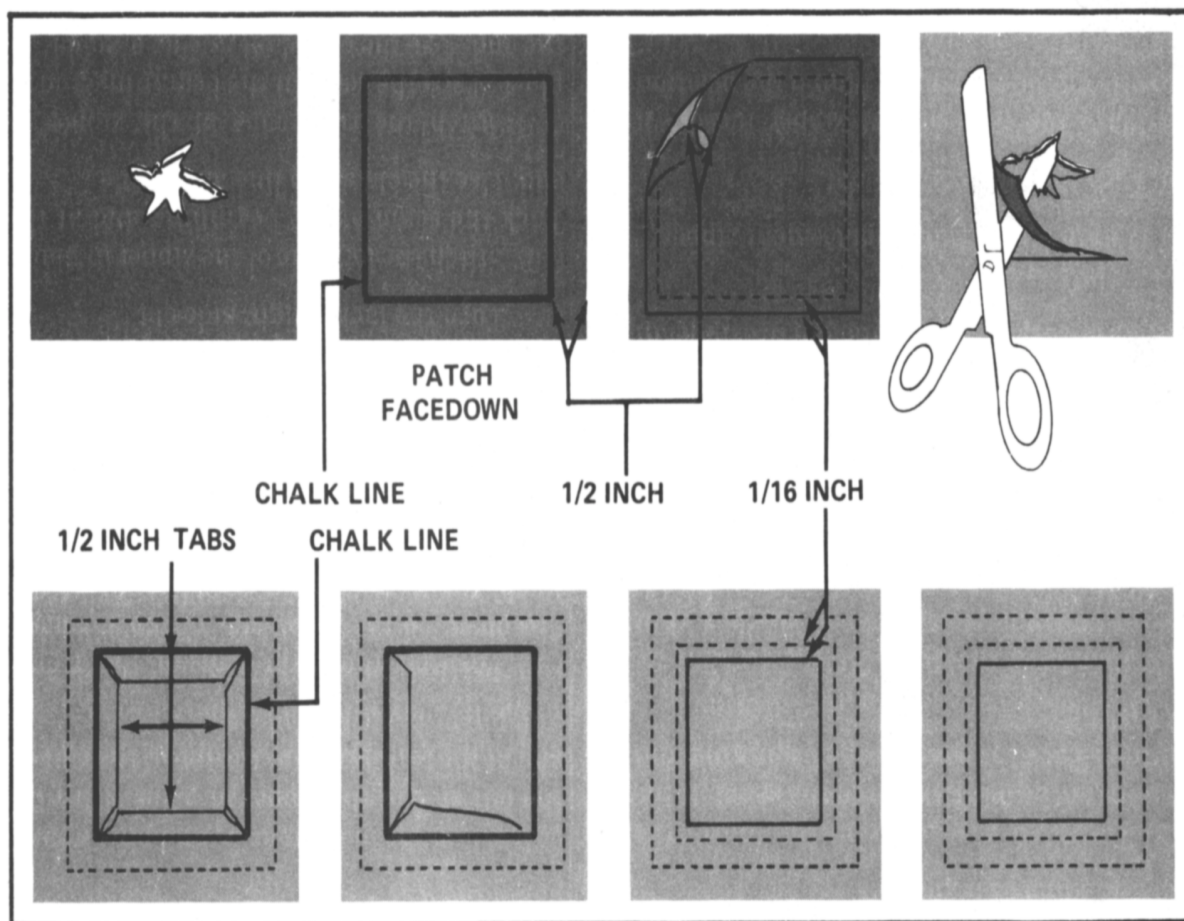

Figure 4-5. Top patch
(1) **Top Patch.** A top patch (Figure 4-5) is sewn to the outside of a garment or to the top of a textile item. This patch is a piece of material that matches the item being repaired and is cut at least 2 1/2 inches larger on all sides than the hole or damaged area to be covered. To apply this patch--